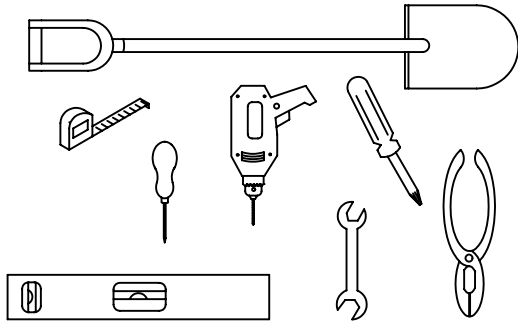

FIG. 1
- 1. WEATHER WARNING ! DO NOT ERECT YOUR BUILDING ON A WINDY DAY. ANY BUILDING LEFT PARTIALLY CONSTRUCTED MAY BE SERIOUSLY DAMAGED (Fig.1).**
- 3. ALL ASSEMBLY OPERATIONS MUST TAKE PLACE ON A COMPLETELY LEVEL SURFACE (Fig. 1)**
UN ABRI PARTIELLEMENT MONTÉ, LES PIÈCES POUVANT ÊTRE ENDOMMAGÉES (FIG. 1).
- 3. TOUTES LES OPÉRATIONS DE MONTAGE DOIVENT ÊTRE RÉALISÉES SUR UNE SURFACE PLANE (fig 1).**